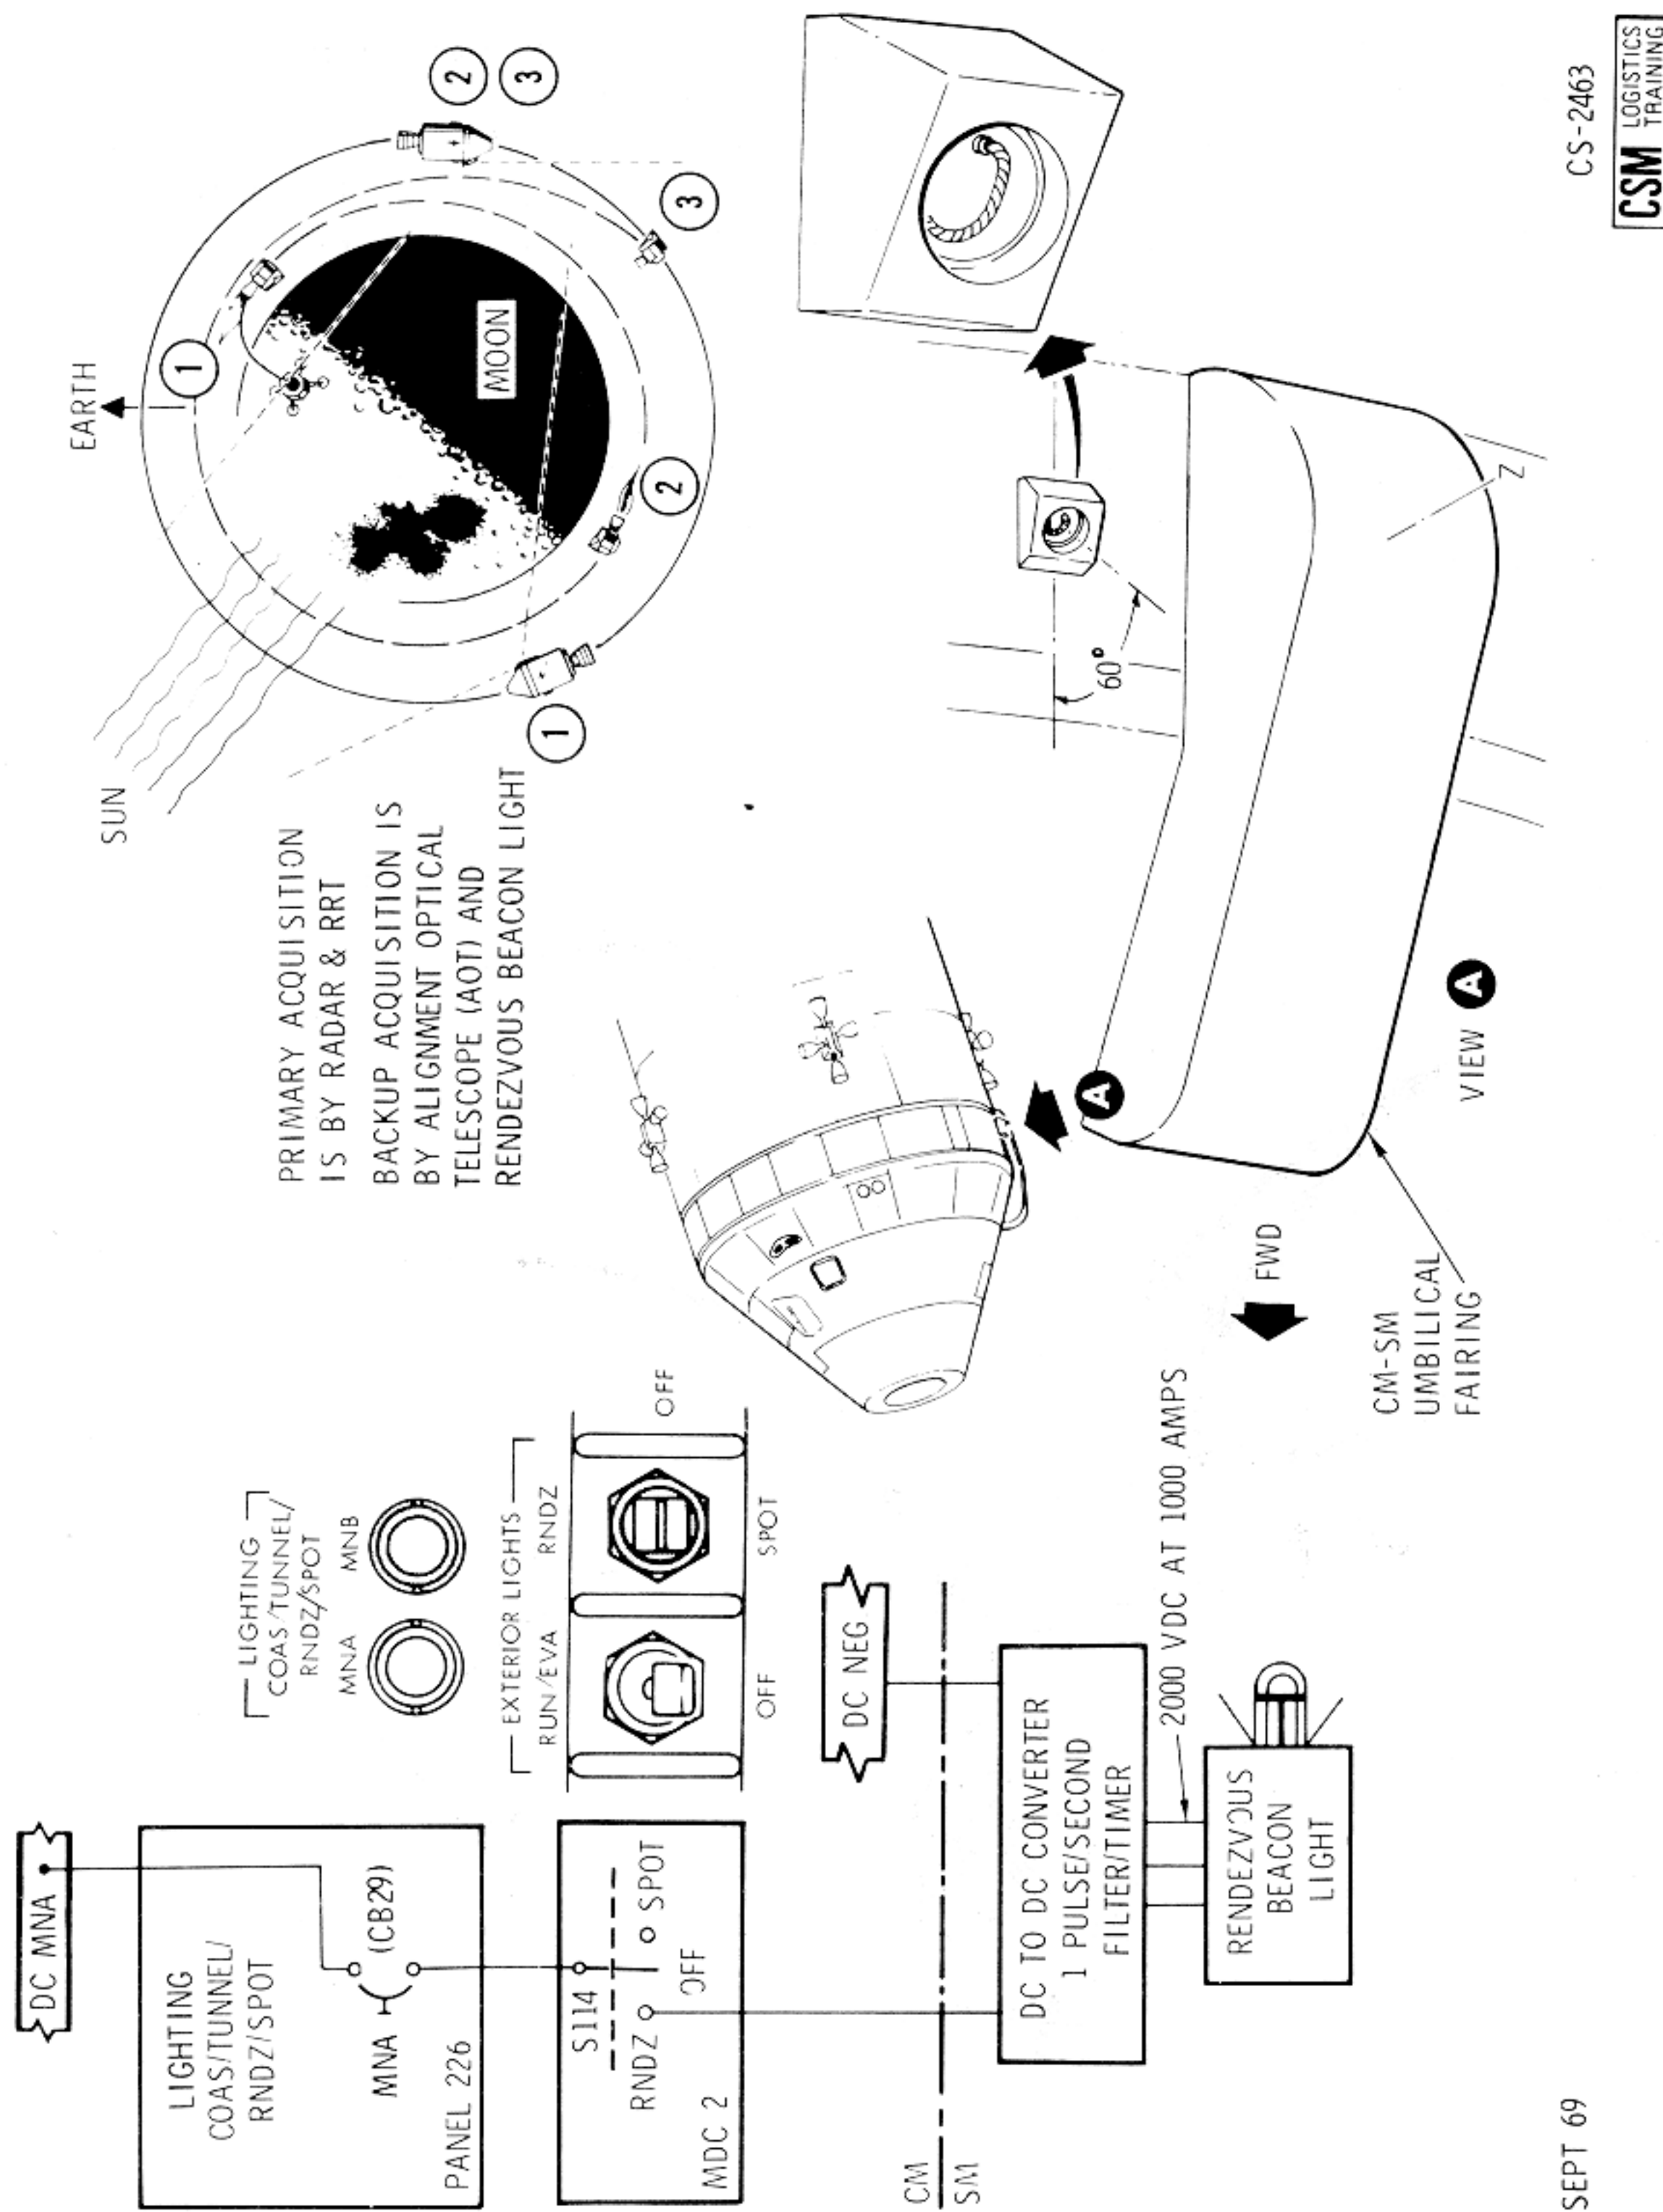

Figure 2.12-29. Rendezvous Beacon
2.12.4.2.5 Rendezvous Beacon (Figure 2.12-29).